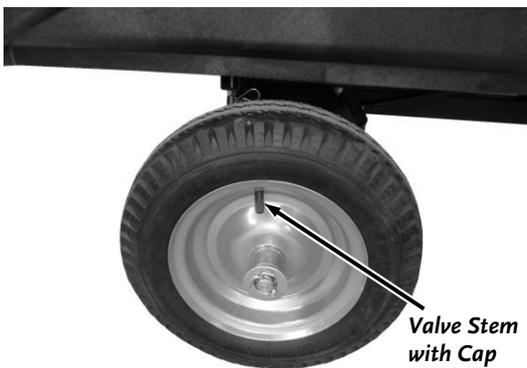

Figure 73
1. Remove the Valve Stem Protective Cap (**Figure 73**) and check the tire pressure with a Tire Pressure Gauge.